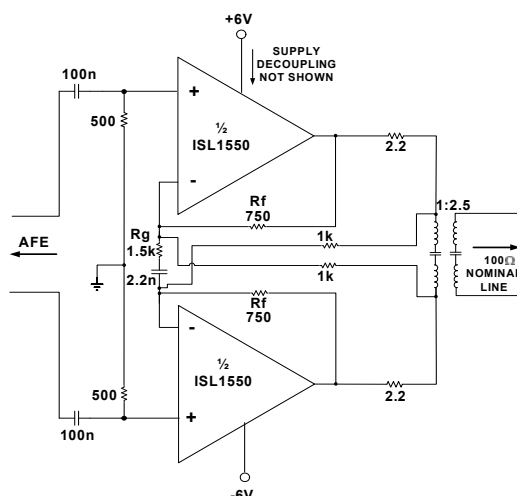

FIGURE 1. TYPICAL APPLICATION CIRCUIT
**Electrical Specifications**  $V_S = \pm 6\text{V}$ , see Figure 1,  $T_A = +25^\circ\text{C}$ , unless otherwise specified.
$V_{CC} = \pm 6V$ , See Figure 1,  $T_A = +25^\circ C$ ,  $C_0 = C_1 = 0V$  (Full power), Unless otherwise